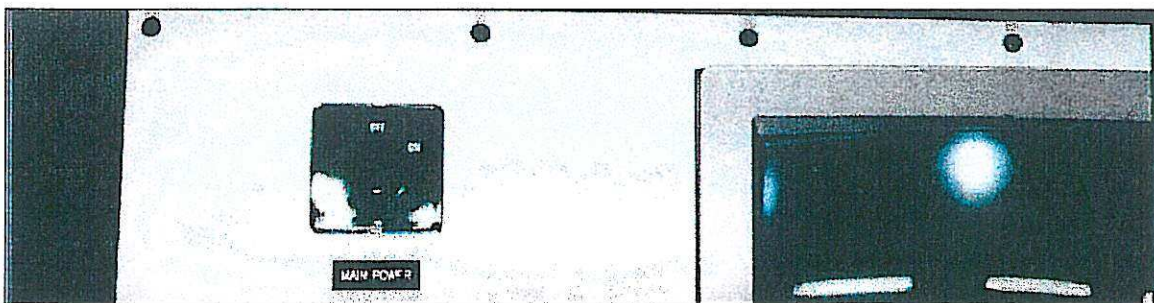

Figure 4.1
A. Main Power Switch: Located on the front of the computer cabinet. See *Figure 4.1.*